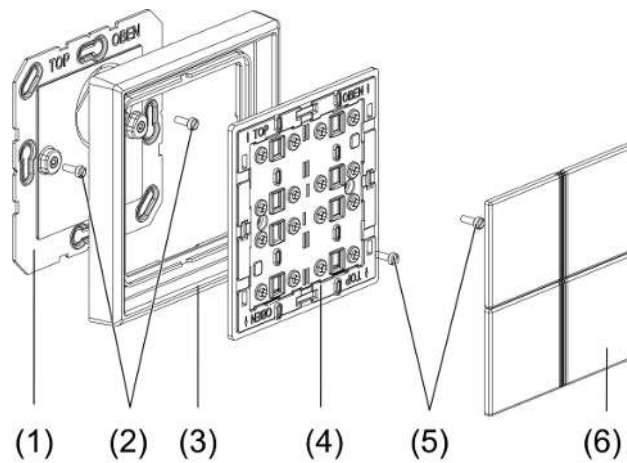

Figure 1: 4-gang radio push-button sensor module
- Screw or glue the base plate (1) to an even surface. The **TOP/OBEN** label has to be at the top.
- Attach design-frame (3) to the base plate.
- Screw wall transmitter module (4) to base plate.
- Snap covers (6) on (Figure 1).
- Carefully remove buttons (6) from the pushbutton sensor (Figure 1).
- Unscrew push-button sensor from the base plate (1).